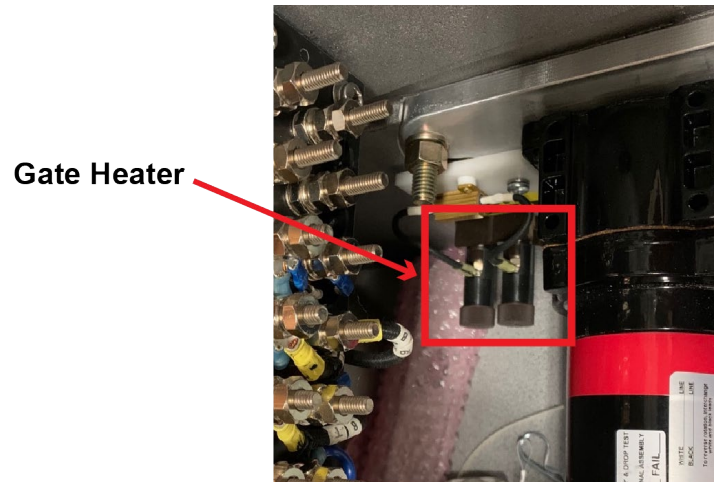

Figure 4 Gate Heater Power Wires
4. Remove the gate heater power wires, if equipped. (Figure 4)